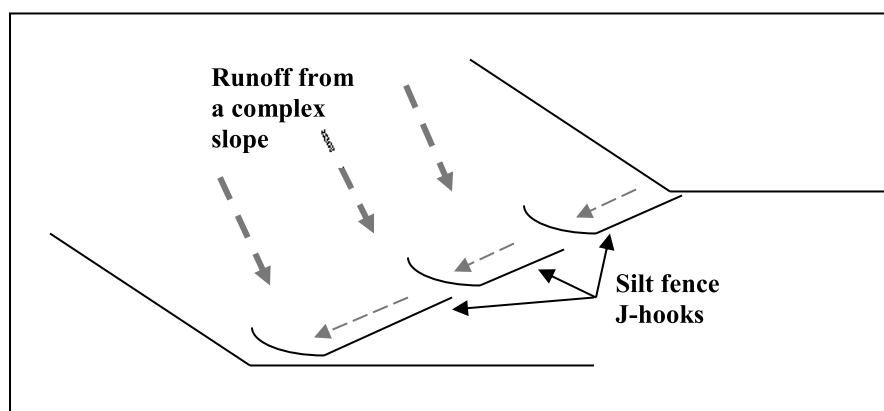

Figure 7.34-1 J-Hook Installation Example
- Install J-hooks for confining the water behind the fence and maximizing the trapping efficiency. See Figure 7.34-1 below.